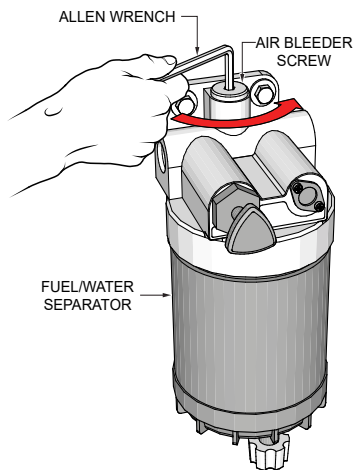

Figure 44. Air Bleeder Screw
1. Using an allen wrench, loosen the air bleeder screw as shown in Figure 44.